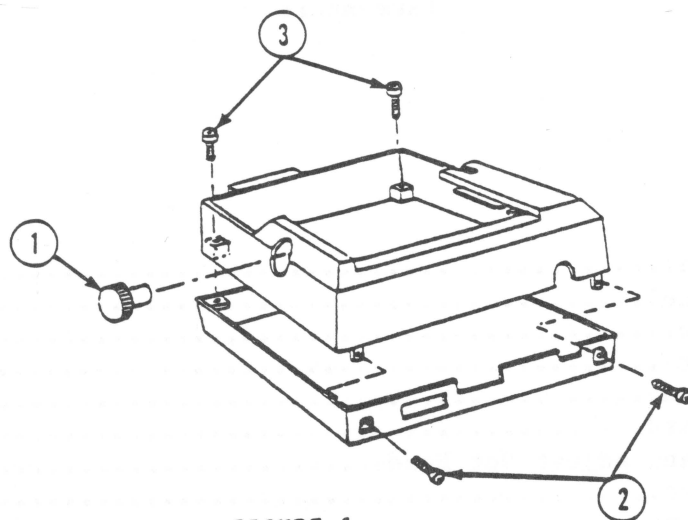

FIGURE 1
3. Pull off the platen knob. (See Figure 1, #1.) If it doesn't come off easily, place the blade of a flat blade screwdriver in the slot of the shaft of the platen knob (i.e., where the knob attaches to the platen). Twist the screwdriver, thereby widening the knob so you can pull it off.
4. To remove the top cover, remove the two screws at the rear of printer. (See Figure 1, #2.)
5. Remove the two screws at the front of printer. (See Figure 1, #3.)